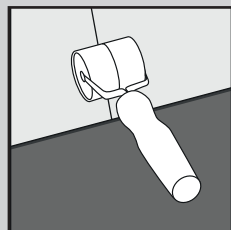

Fig. 4
5. Continue to install planks/tiles across the room until the row is complete using a hand roller to assist (Fig. 4). Only if necessary, use a rubber mallet and an offcut of the product to gently tap the product together. A pull bar can be used to pull the product together around the edges of the room (Fig. 5).